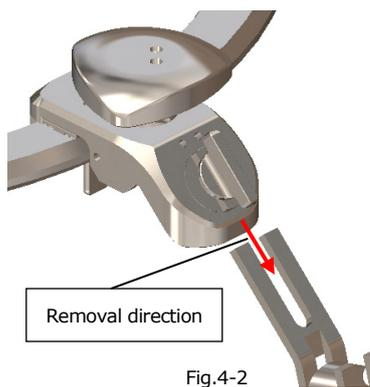

Fig.4-2
(4)-3 Remove the brain spatula fixator (Fig.4-2).